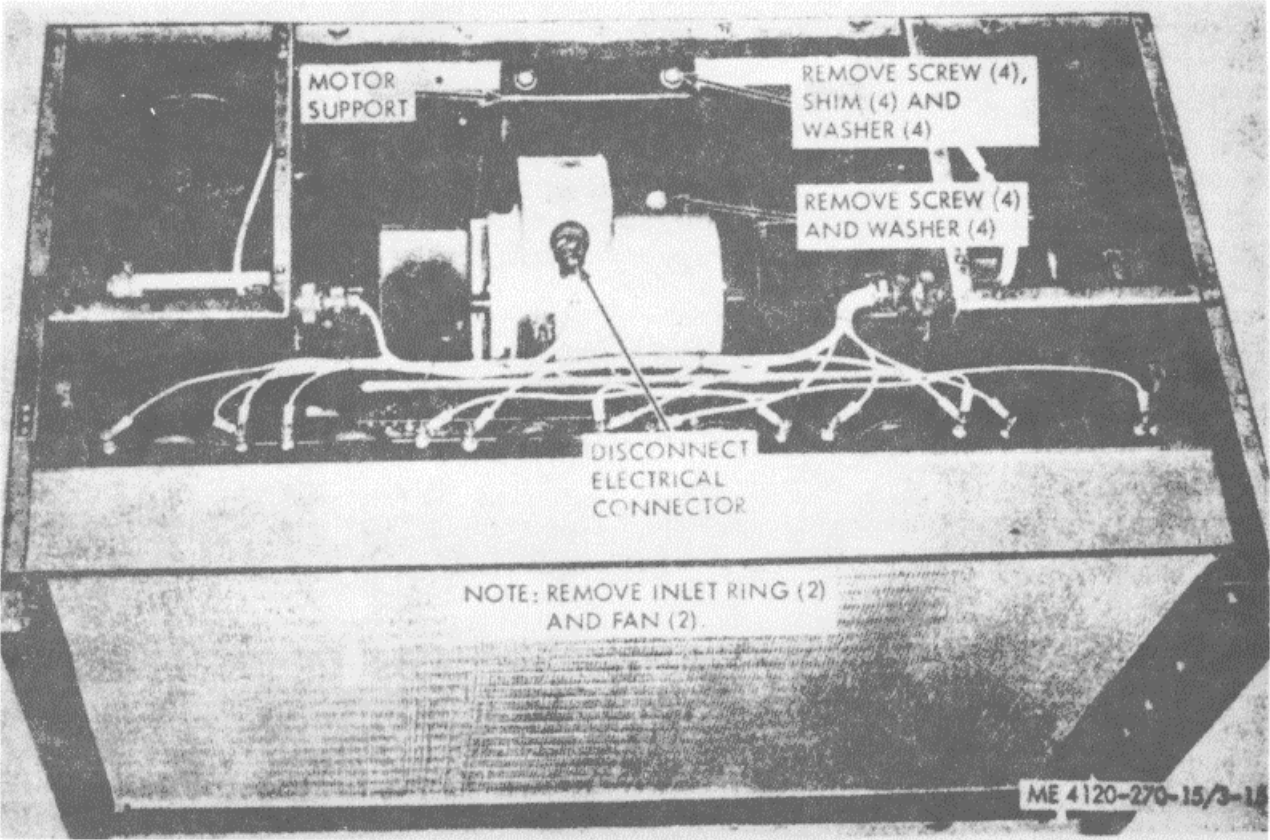

Figure 3-15. Evaporator fan motor, removal and installation
a. Installation. Install the motors in reverse order of removal as illustrated on figure 3-15 and 3-16.